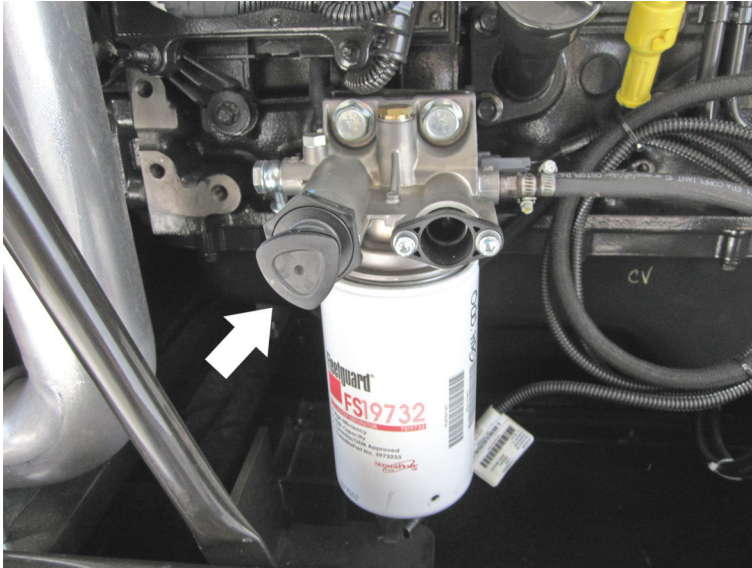

Figure 6.14 - Fuel scavenge hand pump
- b. Exert 4 or 5 manual pressures on the hand pump (see Figure 6.14) situated on the engine, in order to cause the fuel to return and to bleed the plant.